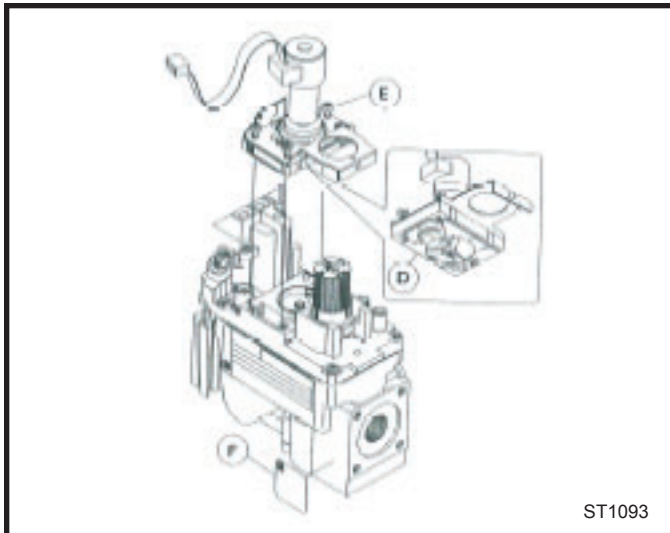

Fig. 75 Remove mounting screws from old pressure regulator assembly. Replace step motor with new conversion step motor.
1. Using the TORX T20 bit remove and discard the three (3) pressure regulator mounting screws from the old pressure regulator assembly. (Fig. 75)
2. Insure the rubber gasket (D) is properly positioned and install the new step motor (E) pressure regulator assembly to the valve using the new screws supplied with the kit. Tighten the screws securely. (Ref. torque = 25 in/lb) (Fig. 75)
3. Install the identification label (F) supplied with the step-per motor to the valve body where it can easily be seen. (Fig. 75)